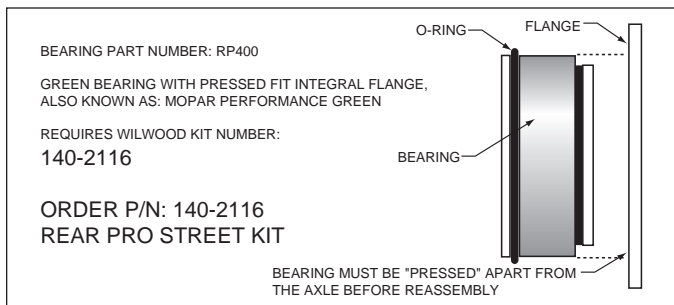

Figure 1. Press Fit Flange Bearing Configuration
**NOTE:** Before any tear-down or disassembly begins, it is important to verify which bearing you have. There are two types of "Green Bearings" being supplied by axle manufacturers. Your setup should look like Figure 1, otherwise you have the wrong kit.